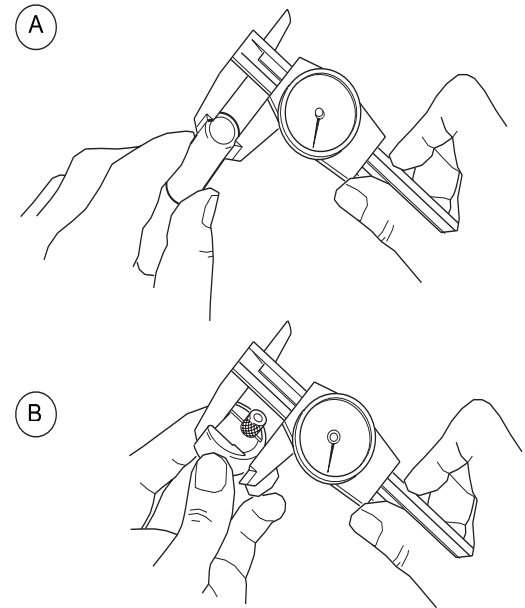

Figure 8 Setting the Arc Gap Gage
1. Measure the outside diameters of the work pieces being welded using a caliper or micrometer. See Figure 8(A). The M200 will calculate the arc gap gage setting when using the Auto Create feature.
3. Adjust the arc gap gage to match the setting from the tables on page 10. See Figure 8(B).